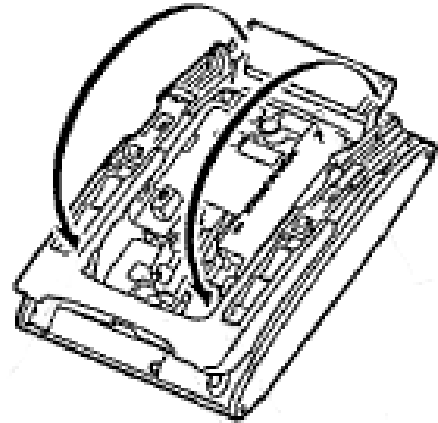

Figure 5-67 Connecting the Tilt Legs
4. Lift both ends of Tilt Legs until they come together (refer to Figure 5-67 Connecting the Tilt Legs on page 5-73).